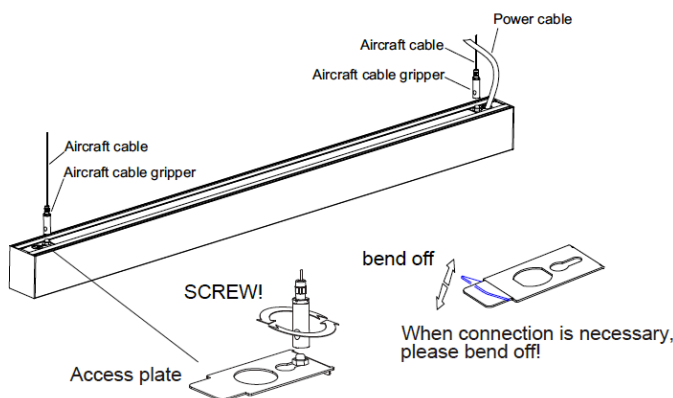

Fig. 13
2. Remove the end cap and side plate (**Warning:** only tighten the screws after removing the access plate from the fixture housing). (Fig. 12) Securely tighten the screws (with washer) onto the access plate and slide it back in. Put the end cap back in place. (Fig. 13)